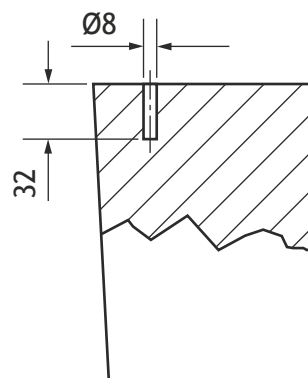

Figure 5
- (h) State the type of the sectional view in Figure 5. 1